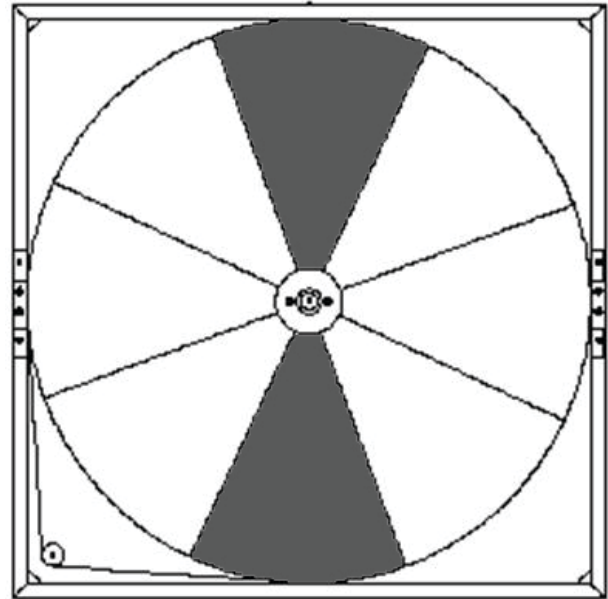

Fig. 36 – Remove/Install Opposing Segments (36 to 86 in.)
Remove or install opposing segments to minimize wheel imbalance. See Fig. 36 for opposing segment removal or installation example.
8. Slowly rotate wheel 180-degrees and remove the opposing segment to rebalance the wheel. See Fig. 36 for removal example.
5. Rotate first segment 180-degrees and install the opposing segment to rebalance the wheel. See Fig. 36 for example of installing opposing segments.
6. Repeat until all of the remaining segments are installed, ensuring balance throughout the procedure. See Fig. 36 for example of installing opposing segments.